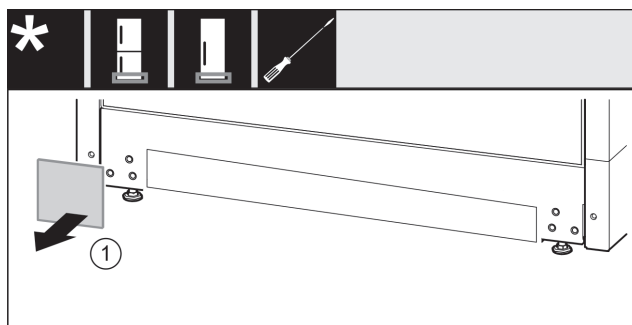

Fig. 10
- Remove the cover. Fig. 10 (1)